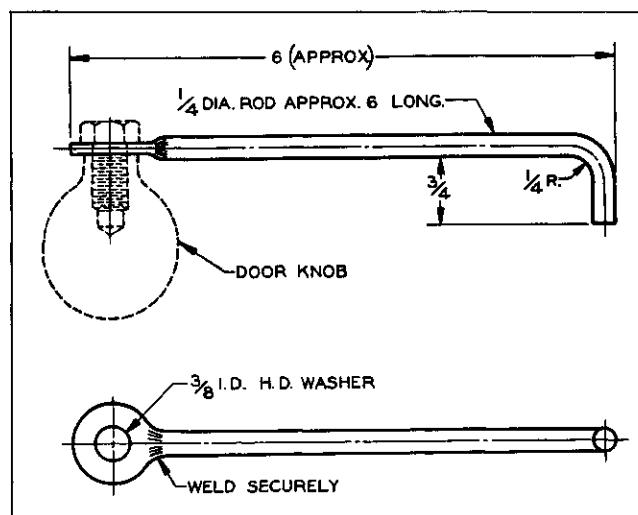

Fig. 4A-15 Differential Cranking Tool
3. Insert crank (Fig. 4A-15) in companion flange and, while turning, apply pressure to back side of ring gear by hand (a leather glove can be used). A test made without loading the gears will not give a satisfactory pattern. Turn companion flange with crank so that ring gear rotates one full revolution, then reverse rotation so that ring gear rotates one revolution in opposite direction. Excessive turning of ring gear may indicate good tooth pattern because one or two teeth are making proper contact.
NOTE: The crank in Fig. 4A-15 may be easily made as follows: